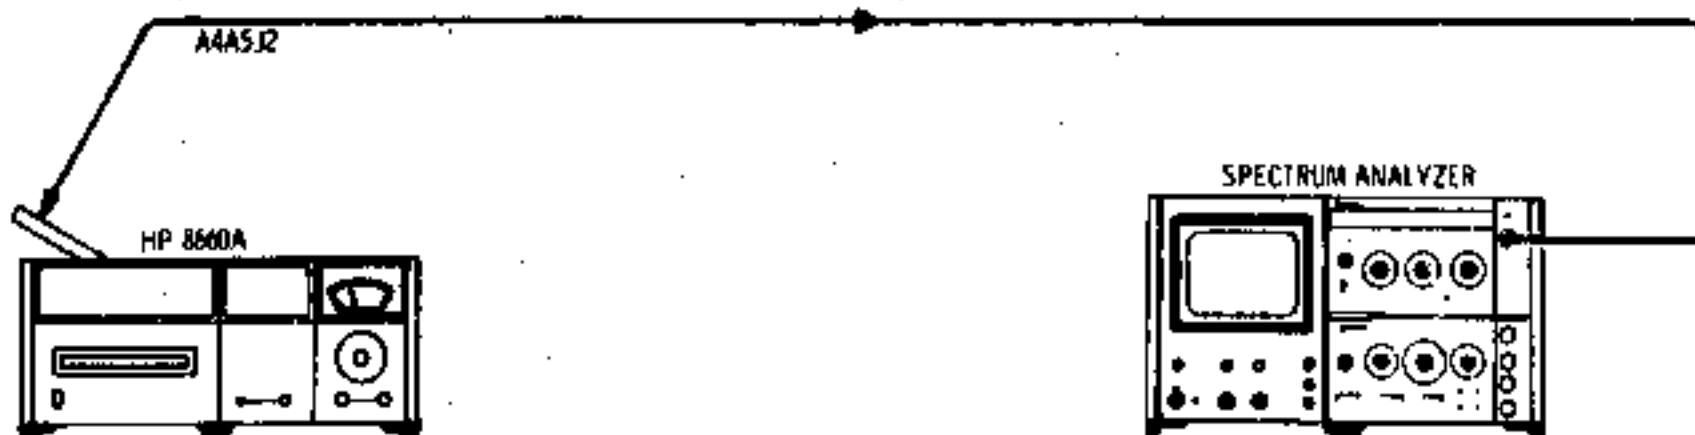

Figure 7-24. Output Amplitude Check Test Setup
6. Output Frequency and Amplitude Check. (See Figure 7-24.)